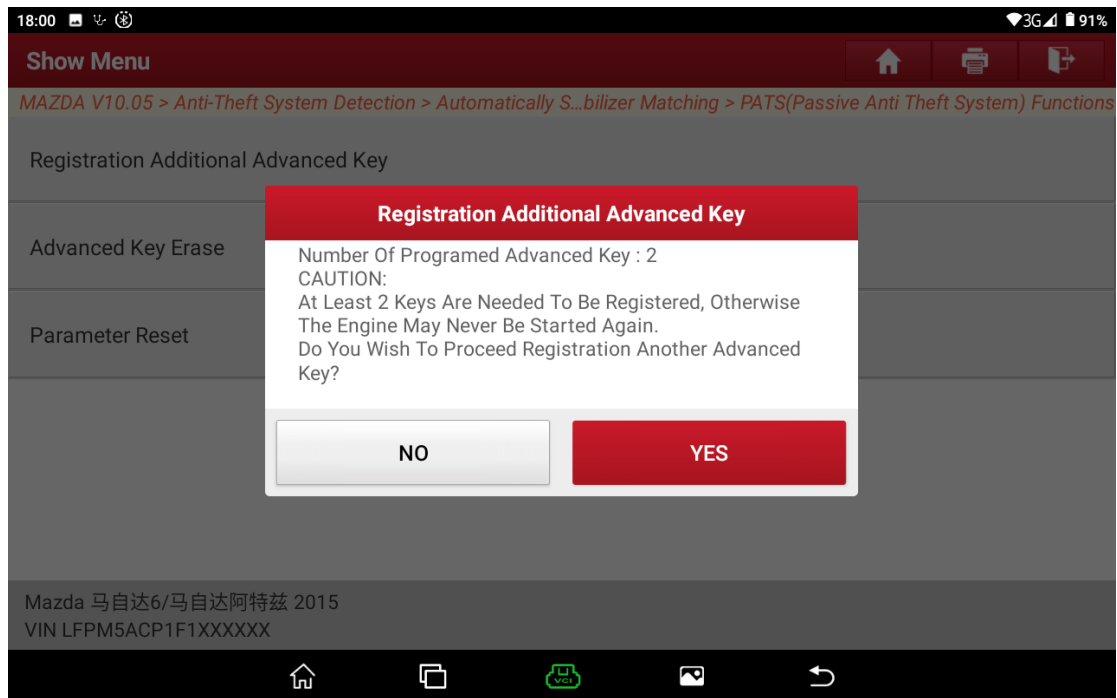

Figure A18
26. The number of registered keys is displayed. Choose [No] to go to the next step, or choose [Yes] to go back to step 12. See Figure A18.